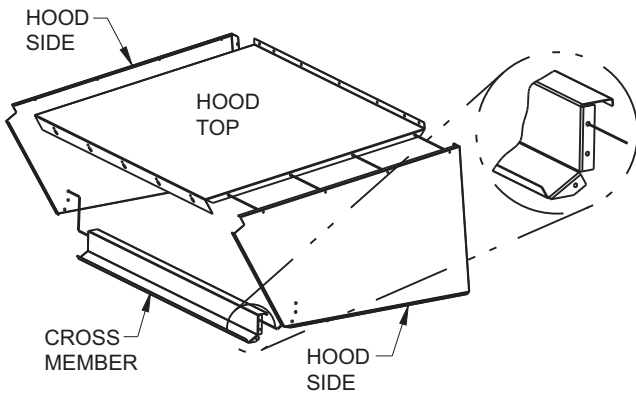

Fig. 28 — Economizer Hood Assembly
3. Assemble hood sides, top, and cross member with gasketed screws provided. See Fig. 28.